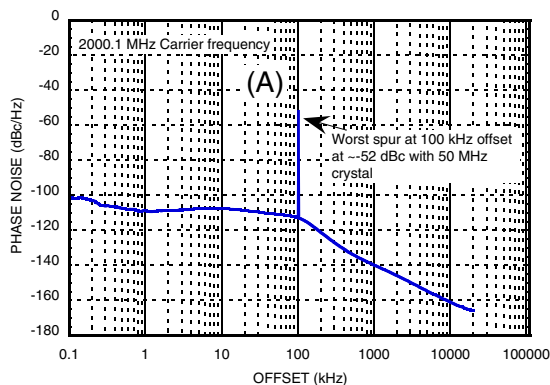
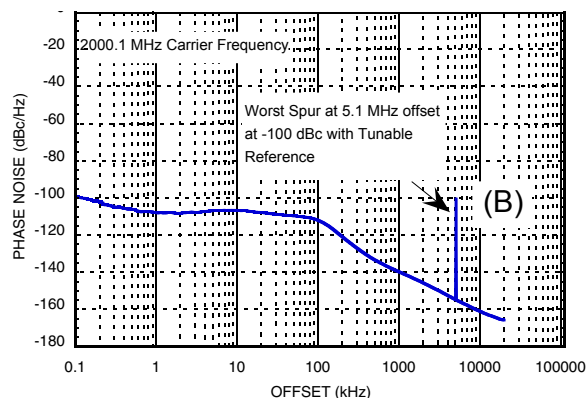
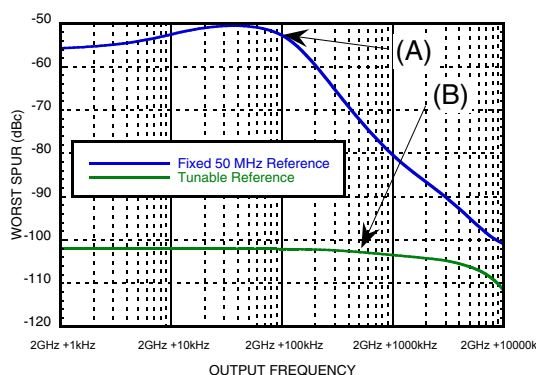

Figure 35. HMC833LP6GE Worst spur at any offset, fixed 50 MHz reference, output frequency = 2000.1 MHz
Figure 36. HMC833LP6GE worst spur at any offset, tunable reference (HMC830LP6GE), output frequency = 2000.1 MHz
Figure 37. Largest observed spurious, at any offset, using a fixed 50 MHz reference source and a tunable reference source.
For example, Figure 35 shows the spectrum of a carrier operating at 2000.1 MHz with a 50 MHz fixed reference. This case is 100 kHz away from an Integer Boundary (50 MHz x 40). Worst case spurious can be observed at 100 kHz offset and about -52 dBc in magnitude.
Figure 36 shows the same HMC833LP6GE PLL VCO operating at the same 2000.1 MHz carrier frequency, using a tunable reference at 47.5 MHz generated by HMC830LP6GE. Worst case spurious in this case can be observed at 5 MHz offset and about -100 dBc in magnitude.
The results of Figure 35 and Figure 36 show that the tunable reference source achieves 50 dB better spurious performance, while maintaining essentially the same phase noise performance.
Many spurious measurements, such as the ones in Figure 35 and Figure 36 can be summarized into a single plot of worst case spurious at any offset vs. carrier frequency as shown in Figure 37. A log frequency display relative to the 2000 MHz fixed reference Integer Boundary was used to emphasize the importance of the loop bandwidth on spurious performance of the fixed reference case. This technique clearly shows the logarithmic roll-off of the worst case spurious when operating near the Integer Boundary. In this case the loop filter bandwidth of the HMC833LP6GE was 100 kHz.
For example worst case spurious operating at 2000.1 MHz (point (A)) in Figure 35 with a fixed 50 MHz reference) is represented by a single point in Figure 37 (point (A)) on the blue curve. Similarly, worst case spurious from Figure 36 with variable reference, operating at 2000.1 MHz is represented by a single point in Figure 37 (point (B)) on the green curve.
The plot in Figure 37 is generated by tuning the carrier frequency away from Integer Boundary and recording the worst case spurious, at any offset, at each operating frequency. Figure 37 shows that the worst case spurious for the 50 MHz fixed reference case, is nearly constant between -51 dBc and -55 dBc when operating with a carrier frequency less than 100 kHz from the Integer Boundary (blue curve). It also shows that the worst case spurious rolls off at about 25 dB/decade relative to 1 loop bandwidth. For example, at an operating frequency of 2001 MHz (equivalent to 10 loop bandwidths offset) worst case spurious is -80 dBc. Similarly, at an operating frequency of 2010 MHz (equivalent to 100 loop bandwidths) worst case spurious is -100 dBc.
In contrast, the green curve of Figure 37 shows that the worst case spurious over the same operating frequency range, when using an HMC833LP6GE tunable reference, is below -100 dBc at all operating frequencies!